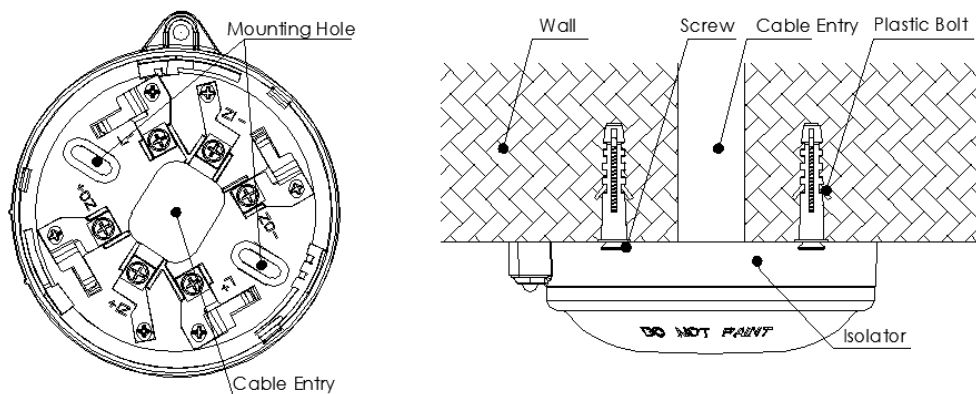

Figure 2 Wiring Diagram
3. Figure 2 is the installation of the isolator. The isolator can be installed on the wall with screws through the mounting holes. The wires are connected to the terminals of the isolator through the cable entry.